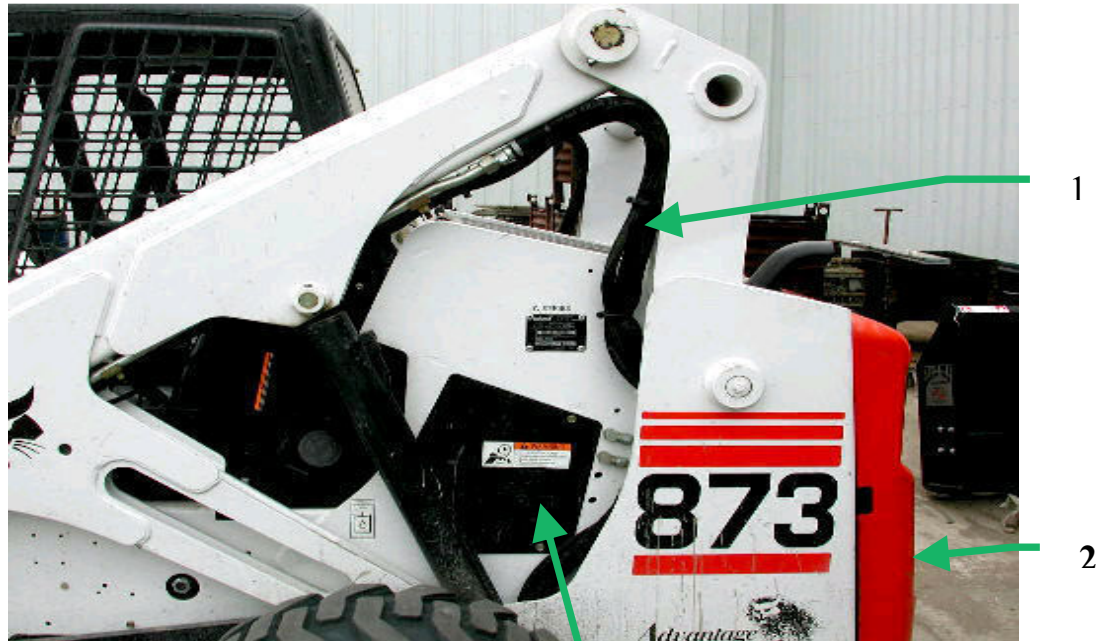

Figure 1.
- A. Run Universal wiring harness up the left arm of the skid steer, following the factory wiring harness (item #1). See figure 1.